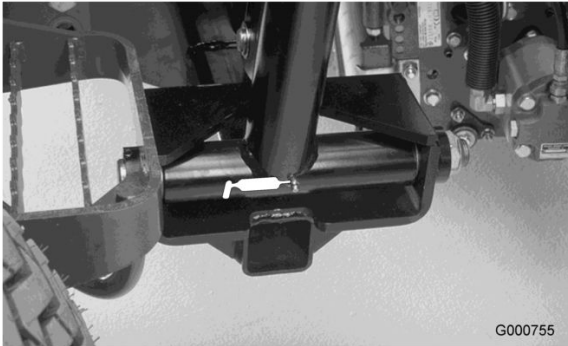

Figure 46
- Lift arm pivot (3) (Figure 46)